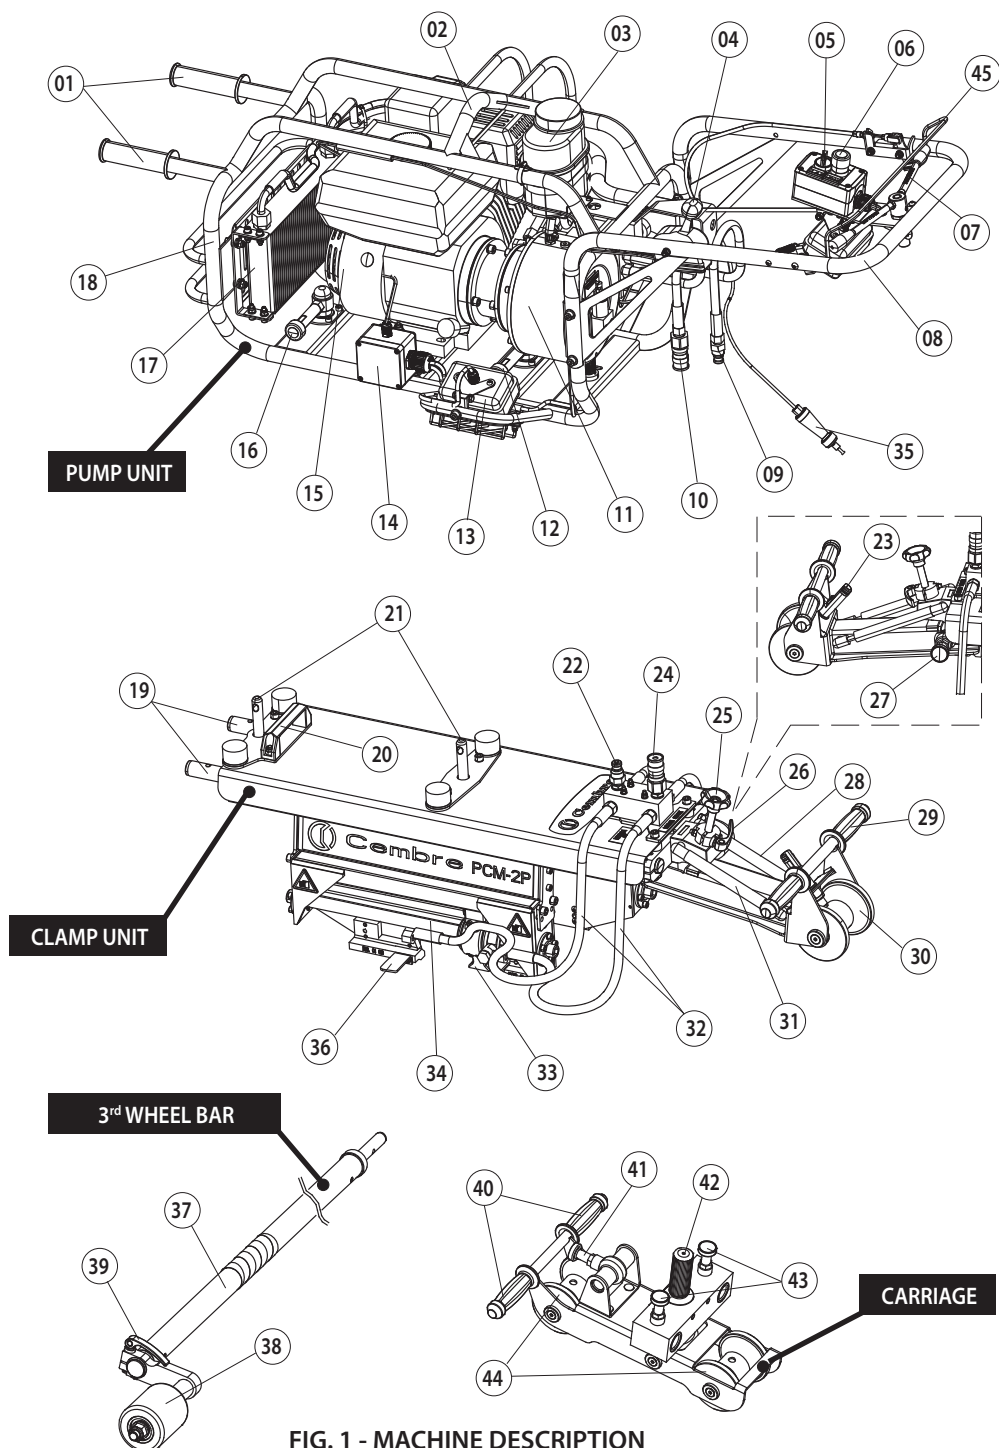

FIG. 1 - MACHINE DESCRIPTION
2. MACHINE DESCRIPTION (Ref. to Fig. 1)
3. UNPACKING THE MACHINE (Ref. to Fig. 1)
It consists of four main sections which can be easily assembled/disassembled (Ref. Fig. 1):